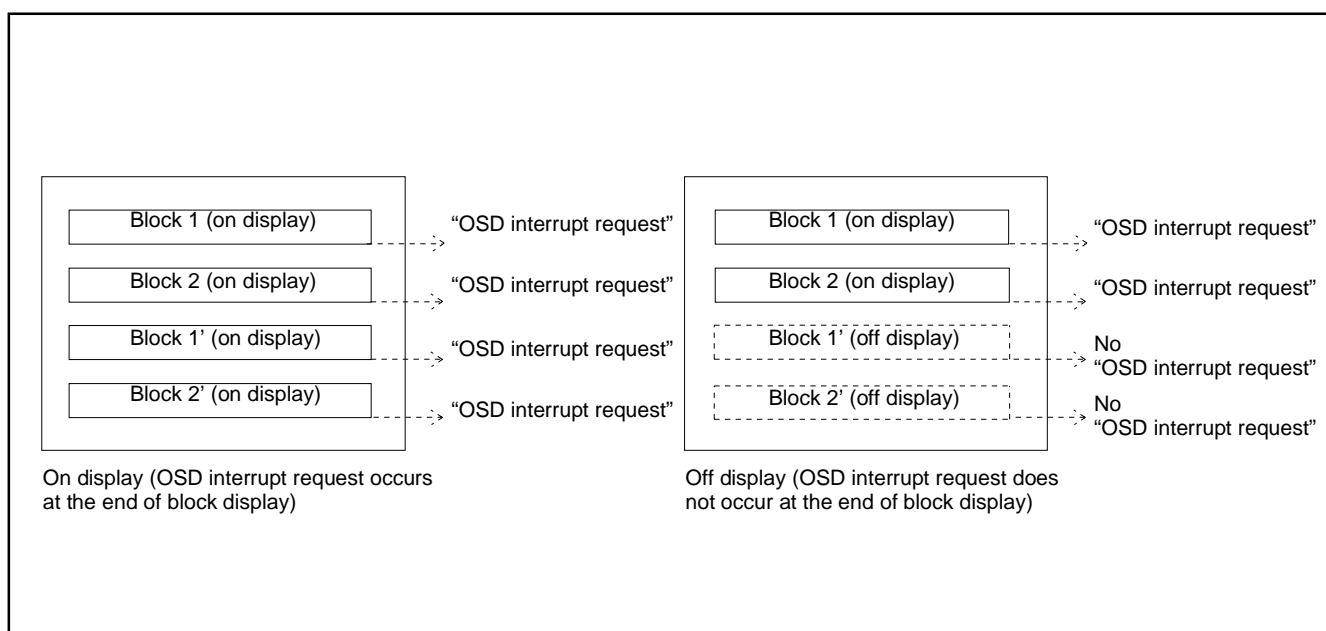

Fig. 8.10.16 Note on Occurrence of OSD Interrupt
**Note:** An OSD interrupt does not occur at the end of display when the block is not displayed. In other words, if a block is set to off display by the display control bit of the CRT control register (address 00EA16), an OSD interrupt request does not occur (refer to Figure 8.10.16).